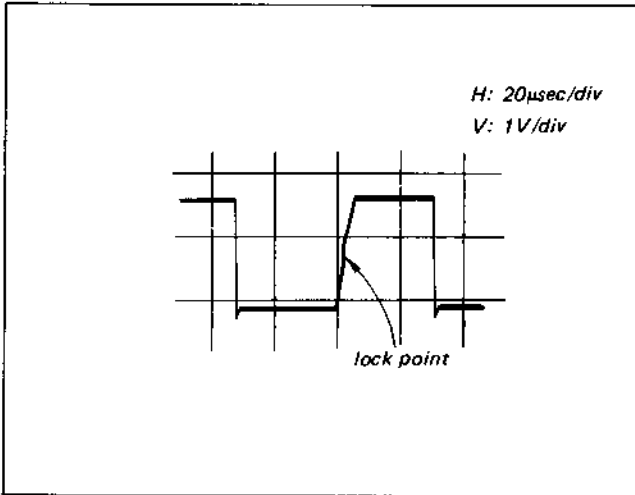

Fig. 4-4-9. AFC adjustment
- (3) Adjust RV21 so that the lock point is the center of the trapezoidal waveform. (See Fig. 4-4-9.)